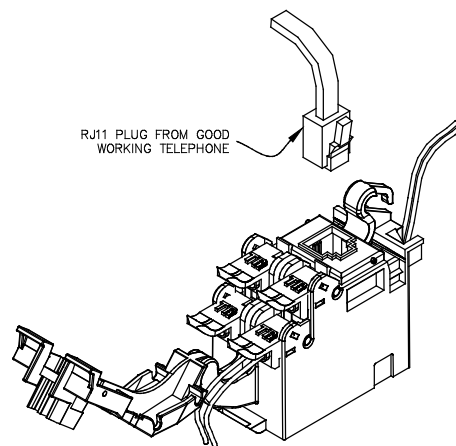

Figure 9
2. Using a working telephone, insert the telephone RJ-11 plug into the customer test jack (See Figure 9).